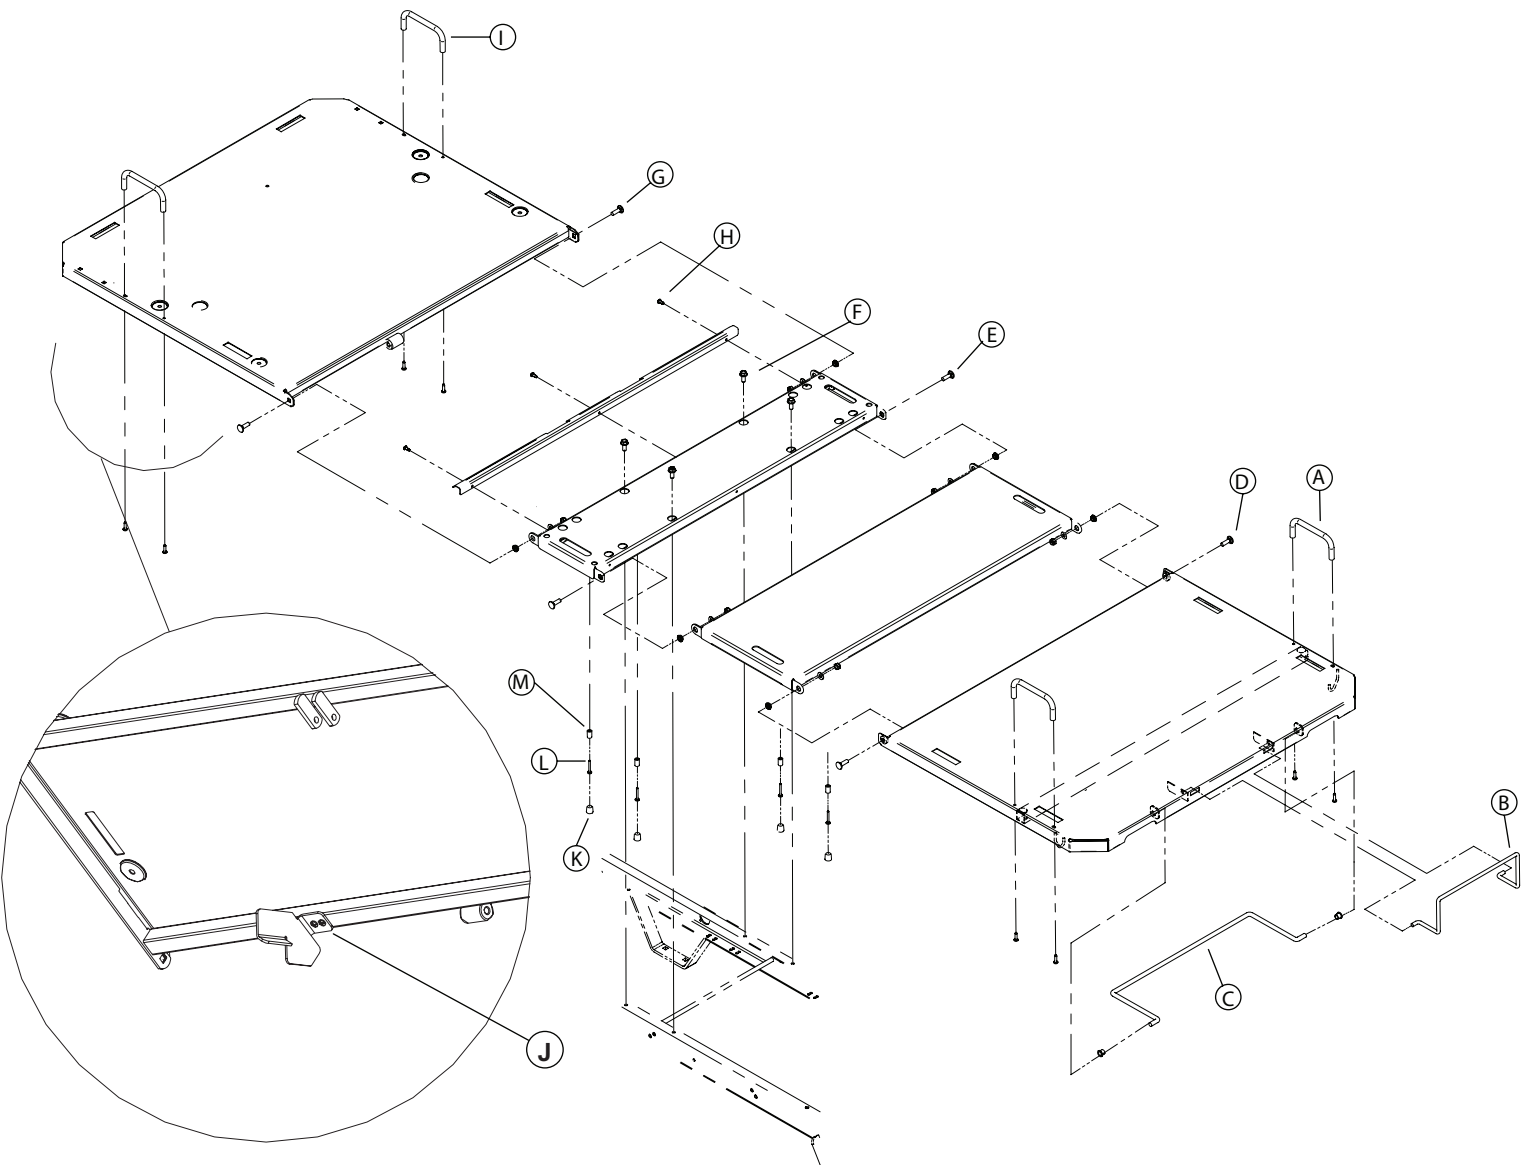

Figure 3.2A
Unless otherwise indicated, refer to Figure 3.2A on page 18 for the illustration of the references contained in the following procedure.
10. Using a 1/2" combination wrench, remove the two locknuts, flat washers, shoulder spacers and bolts (G, Figure 3.2A, page 18) linking the head section to the seat section. Remove the defective head section.